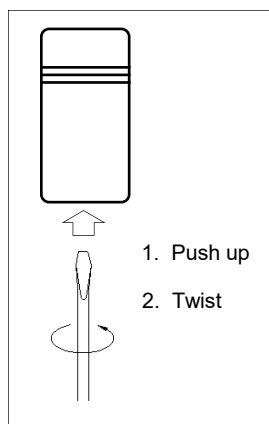

Fig. 2. Opening the case
1. **Remove the cover.** Remove the **GEM-TRANS2** transmitter cover by inserting a small screwdriver into the slot at the bottom and twisting while applying upward pressure. See Fig. 2 below.